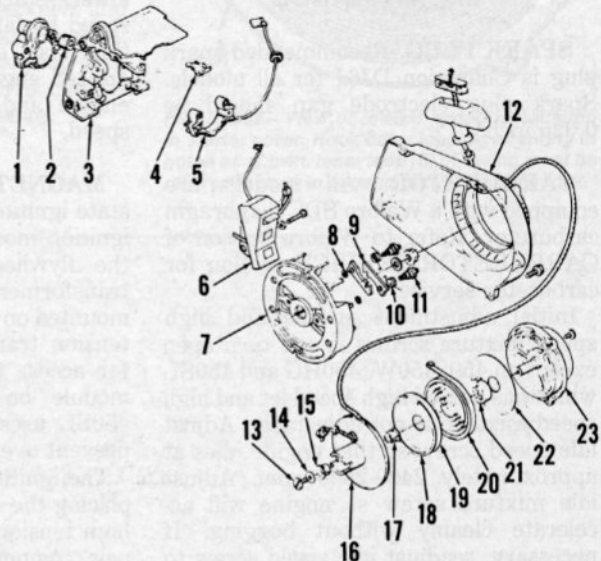

Fig. HL286—Exploded view of engine.
Connecting rod (11—Fig. HL286) rides on twelve caged bearing rollers (12). The crankshaft is supported by roller bearings (16) which are installed so lettered end is towards snap rings
(15). Tighten connecting rod screws to 65-75 in.-lbs. When assembling crankcase and cylinder, use a suitable sealant on mating surfaces. Be sure components are properly assembled and snap rings (15) engage grooves in cylinder and crankcase. Before final tightening of crankcase screws, lightly tap both ends of crankshaft to obtain proper crankshaft end play. Tighten crankcase retaining screws to 60-70 in.-lbs.